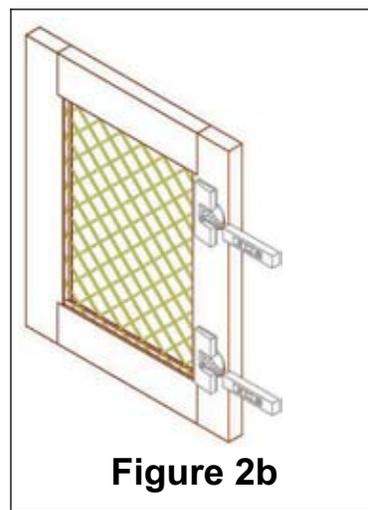

**Figure 1**
1. Take the (4) hinge plates with the arrows pointing toward the front of the conversion box and insert the two black pins on the hinge plate into the pre-drilled holes on the side panels (**Figure 1**). Make sure to press the plate firmly against the conversion box side and snap the levers closed.